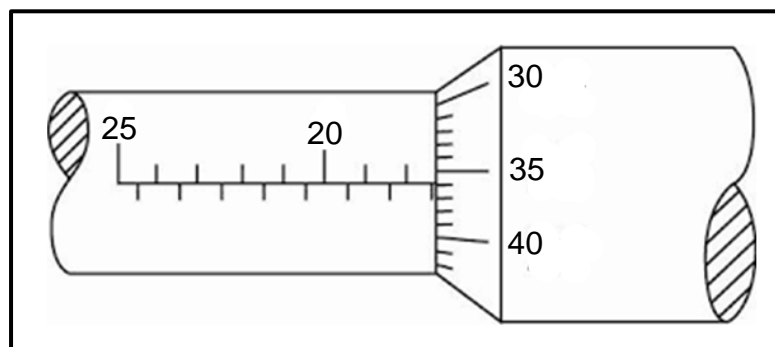

FIGURE 7.4
7.4 Determine the depth micrometer reading shown in FIGURE 7.4 below.